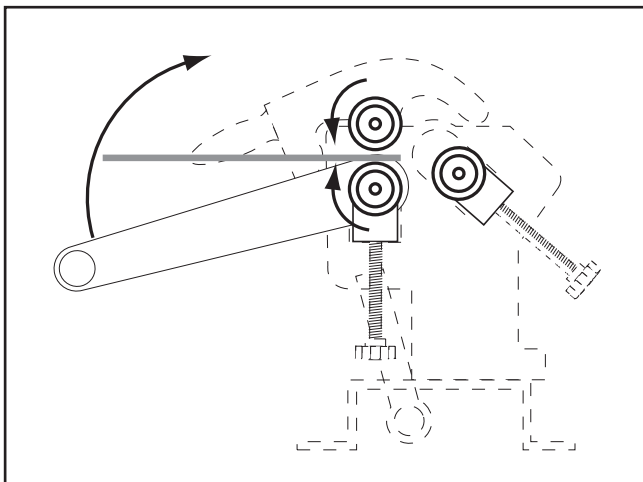

Figure 15. Flat rolling the workpiece.
3. With the help of an assistant, feed the workpiece into the rollers while turning the crank (**Figure 15**).